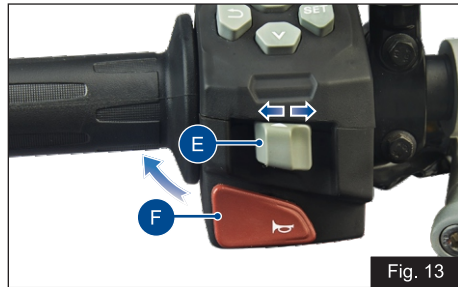

Fig. 13
**E) Switch turn signal (ref. Fig. 13)**
**F) Switch horn (ref. Fig. 13)**